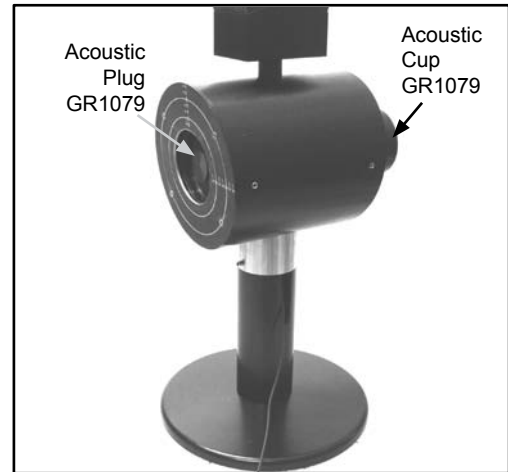

Fig. 4.15
5. Type 45CA is now ready to be tested for acoustic isolation (Fig. 4.15).